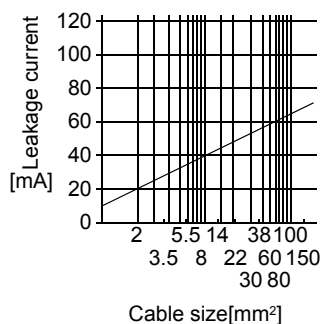

Fig. 11.1 Leakage current example (I_{g1}, I_{g2}) for CV cable run in metal conduit
- I_{g1}: Leakage current on the electric channel from the leakage current breaker to the input terminals of the controller (Found from Fig. 11.1.)
- I_{g2}: Leakage current on the electric channel from the output terminals of the controller to the servo motor (Found from Fig. 11.1.)